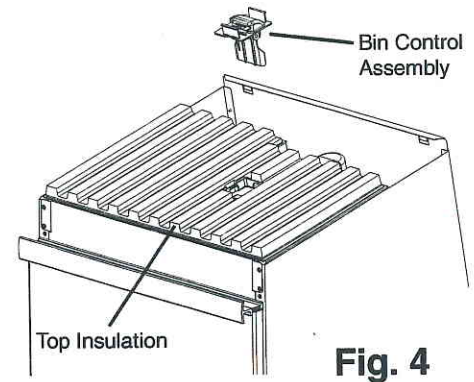

Fig. 4
6) Lift up the top insulation and unsnap the bin control assembly. Lift the assembly up through the insulation and set it aside. See Fig. 4.